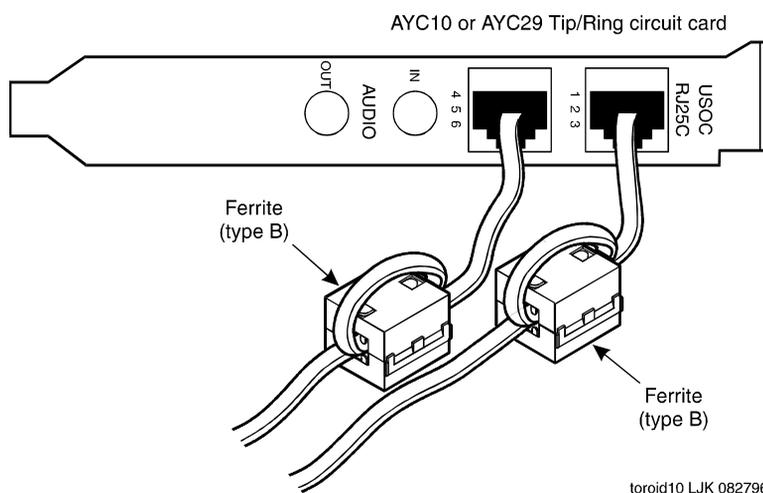

Figure 4-3. Example Ferrite Installation
3. If the cable is to be wrapped around the ferrite, wrap the cable tightly around half of the ferrite and place the cable into the groove (Figure 4-3).